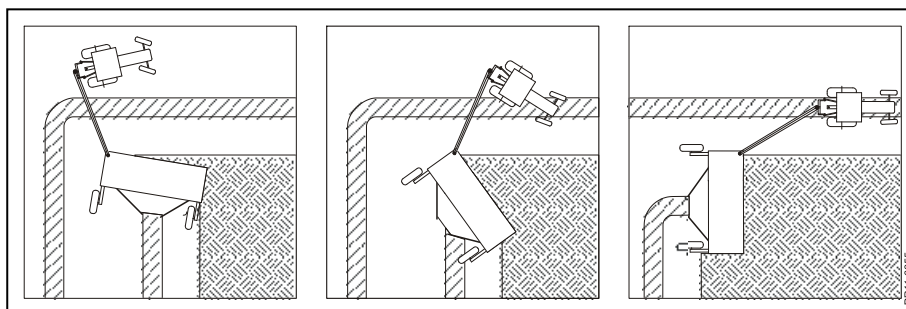

Fig. 3-3
**Fig. 3-3** The swivel gearbox allows a turn of 90° - or more - without vibrations in the transmission. Turning in the corners of the field is reduced from the usual approx. 12 sec. to only approx. 3 sec. because the machine practically turns around its own centre line.